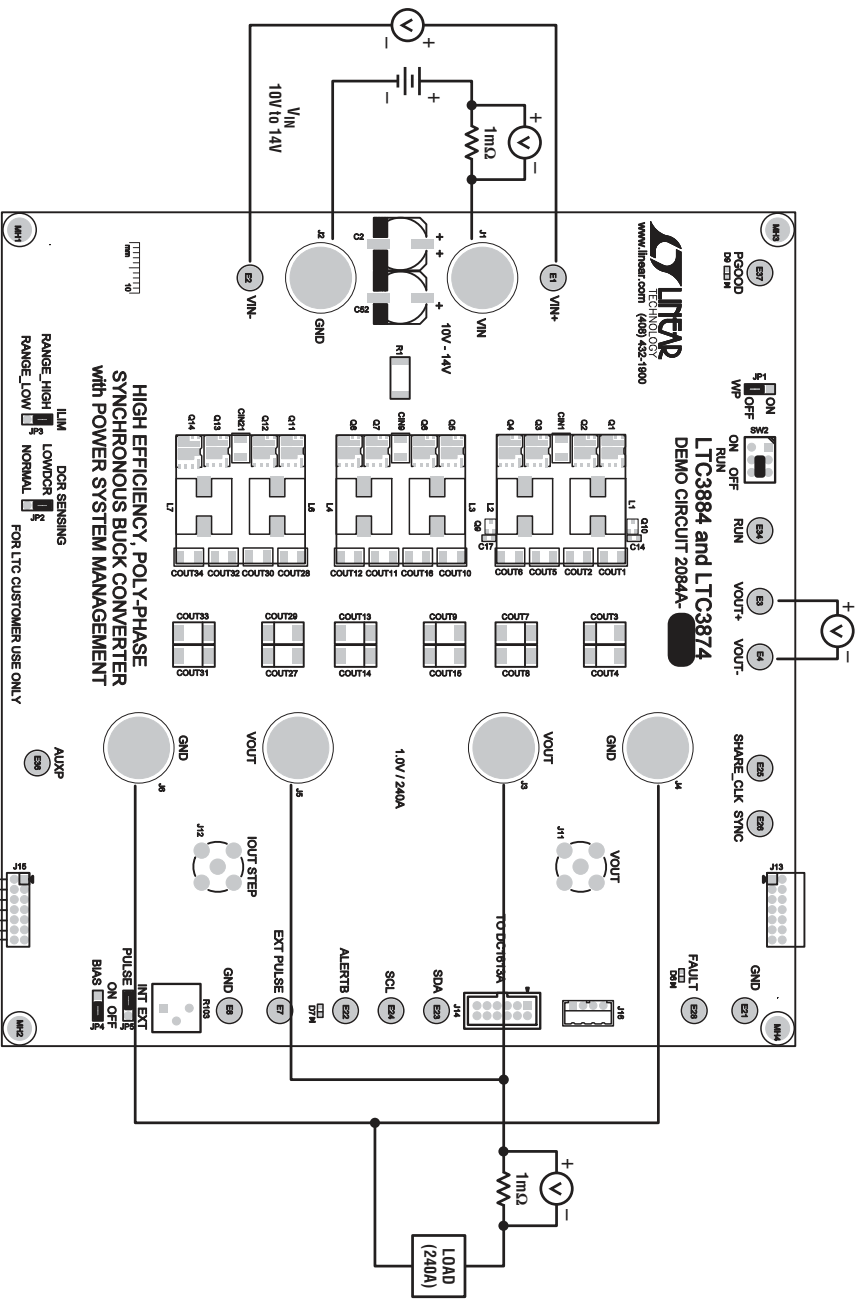

Figure 1. Proper Measurement Equipment Setup
Demonstration circuit 2084A is easy to set up to evaluate the performance of the LTC3884. Refer to Figure 1 for the proper measurement equipment setup and follow the procedure below.
2. Connect the output loads between V_{OUT} and GND (initial load: no load). Refer to Figure 1.